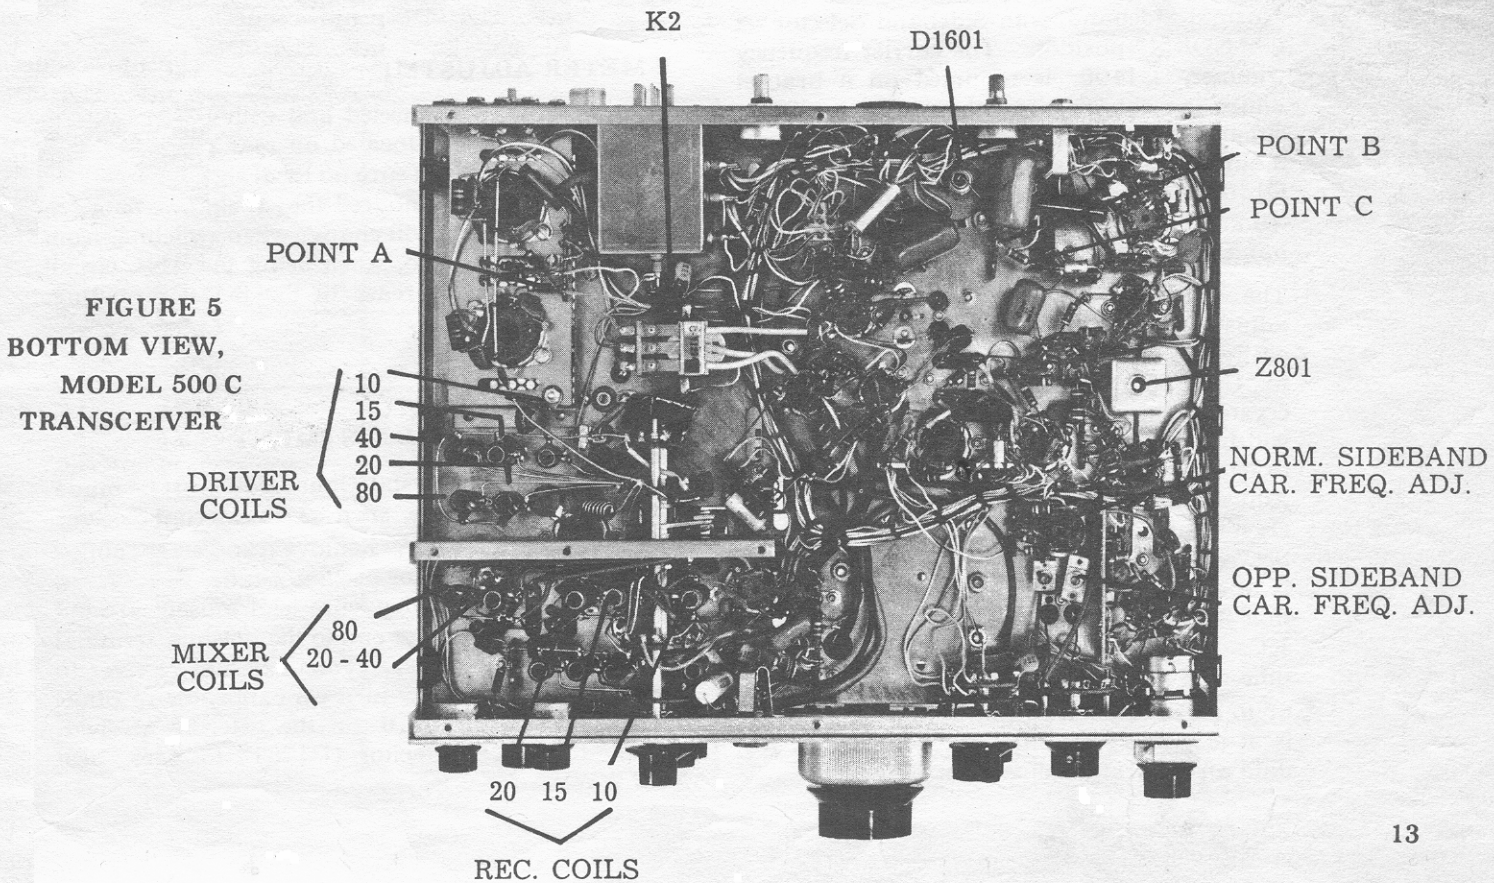

FIGURE 5
1. Remove screen voltage from V4 and V5 by disconnecting the wire from terminal strip immediately adjacent to V5 base. (A, Fig. 5).
2. Connect VTVM across R412, 4.7K resistor between pins 1 and 2 of terminal strip, using 15 volt scale. (Points B and C, Fig. 5).